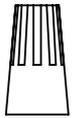

**Figure 2**
2. Attach the crossbar by using two junction box screws (size: #8-32x 1") into 3" outlet box, then thread two mounted screws (size: #8-32x 3/8") into the crossbar leaving enough of screw exposed to engage keyholes in the top of disk light (Fig.2). Make sure the side of crossbar marked "GND" must face out.
4. Connect supply wires to fixture wires and insulate with proper size wire nuts (Fig.1 or Fig.2).
6. Raise the disk light over the mounted screws through the key holes, rotate the disk light until the mounted screws are in the slots of the keyholes and secure the disk light with the two mounted screws. (Fig.2 for 3 inch outlet box)